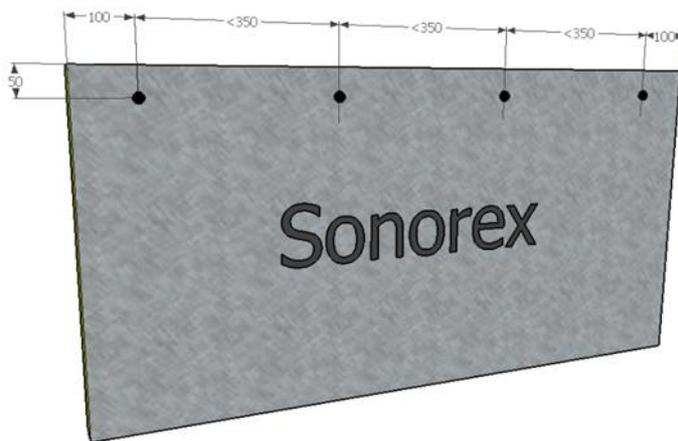
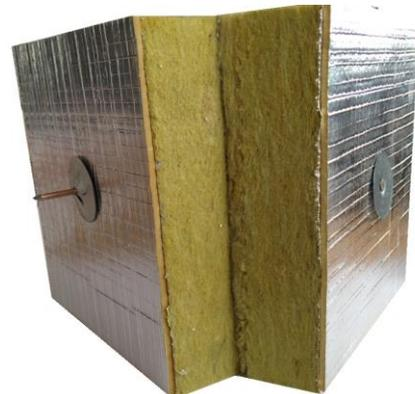

Figure 1, Location of Sonorex® Screw and/or Locking Pin
Figure 2, Locking pin and plate
10. The Sonorex® Easy Mass Foil is self-adhesive. We however recommend that the foil should be secured in place in order to ensure the quality of noise insulation panels in the long term. The Sonorex® Screw and/or Locking Pin to attach the mass foil will not adversely affect the noise insulation properties of the relevant Sonorex noise insulation panel. For details of the location and distances of the Sonorex® Screw and/or locking pin, please see Figure 1. The locking pin should be fully inserted through the insulation panel and locked in place with a locking plate on the other side. See Figure 2.